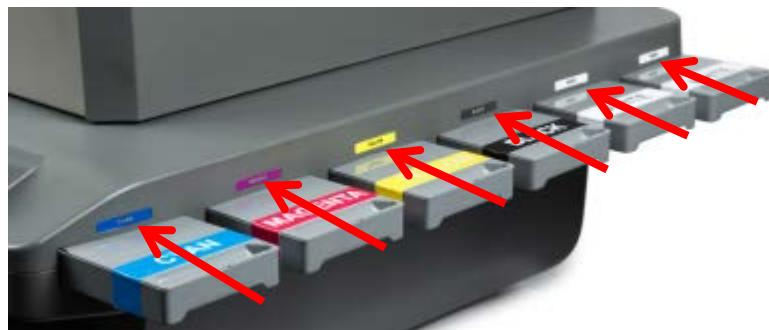

Figure 9.4-7: Ink Bay Cartridge Orientation
- Carefully pull the empty cartridge straight out of the Ink Bay. (Figure 9.4-7) The LCD on the control panel will read “**NOT FOUND**” for the missing cartridge.